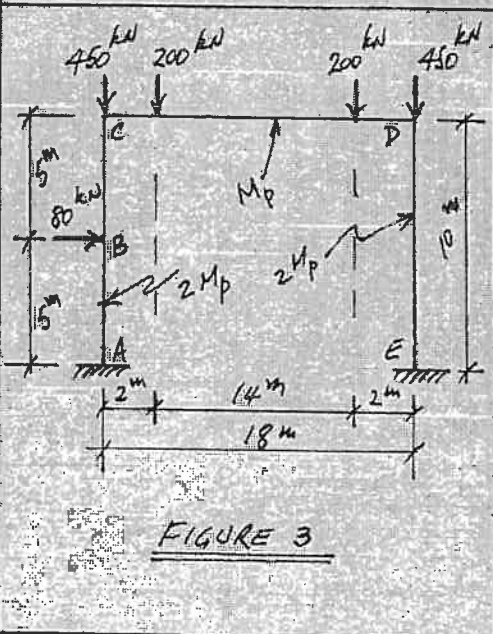

FIGURE 3
3. Figure 3 shows a loaded steel rigid frame to be designed using the Plastic Method of Design. The members have plastic moment capacities as shown.
4. For the steel rigid frame in Figure 3: